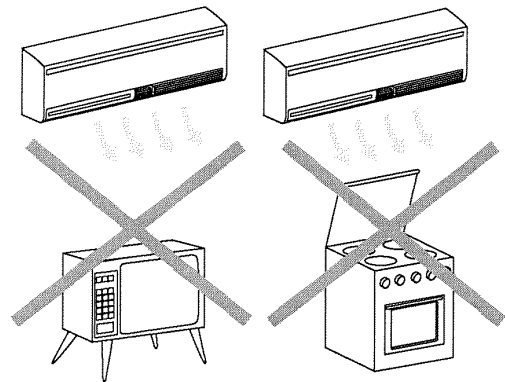

Fig. 3
- It should not be directly over another appliance (television set, radio, refrigerator, etc.), or over a source of heat (fig. 3).